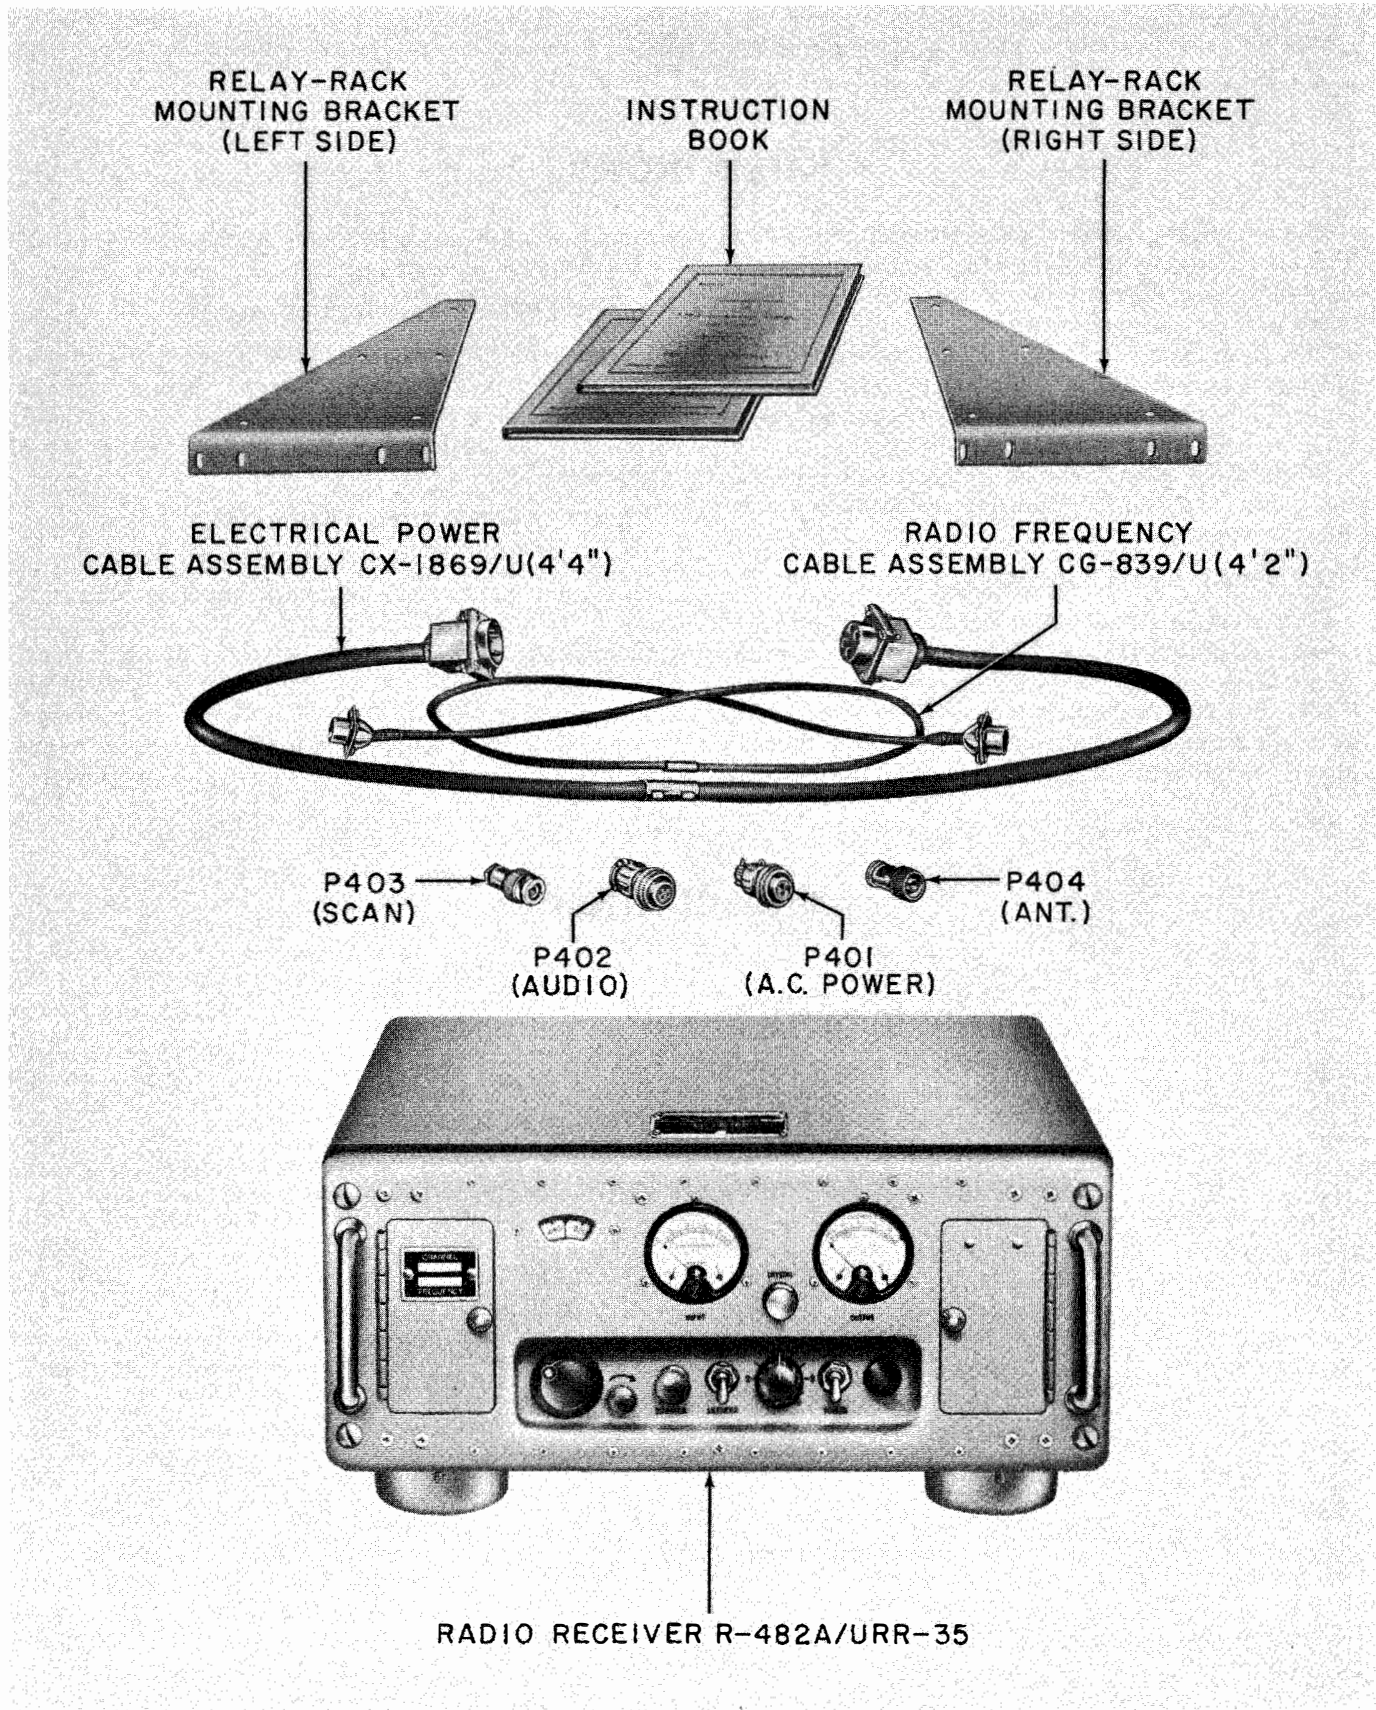

Figure 1-1. Radio Receiving Set AN/URR-35A
*c.* EQUIPMENT ARRANGEMENT. — Radio Receiving Set AN/URR-35A is shown in figure 1-1. It consists of Radio Receiver R-482A/URR-35, a pair of auxiliary angle brackets for relay-rack mounting, four plugs to mate with receptacles on the receiver for external connections, Electrical Power Cable Assembly CX-1869/U, Radio Frequency Cable Assembly CG-839/U, and two copies of the instruction book. The receiver proper consists of a panel, frame and chassis assembly housed in a cabinet fitted with shockmounts.
Connector plugs P401 through P404 (see figure 1-1) are supplied with the equipment for use as required. Through connectors P401 and J401, a-c power is sup-
*b.* TEST CABLE ASSEMBLIES.—Two test cable assemblies, shown in figure 1-1, are supplied with the equipment for use during maintenance procedures. When the receiver is removed from the cabinet during such procedures, these cable assemblies are used to connect the connector plugs on the rear of the receiver to the receptacles on the base plate of the low-pass filter; refer to preceding subparagraph *g.* Radio Frequency Cable Assembly CG-839/U (W601) connects the antenna input connector on the rear of the receiver chassis to the antenna input circuit of the filter assembly. Electrical Power Cable Assembly CX-1869/U (W602) connects the receiver power and audio circuits to the filter assembly.